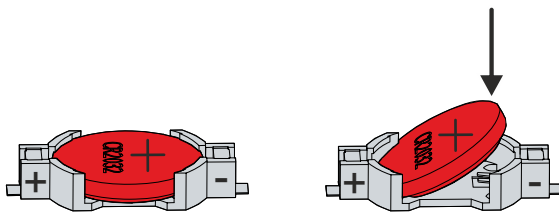

Fig. 13: Battery change
⇒ The battery is now in an oblique position (see fig. 13).
5. Push the high side of the battery down into the battery holder (see fig. 13).